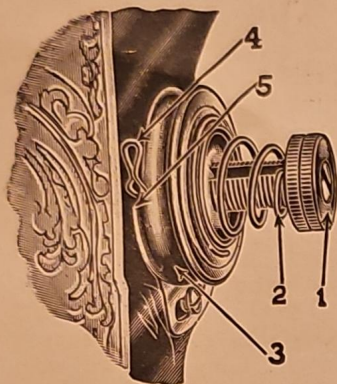

Figure 13 1/2.
This Machine is fitted with an **AUTO-MATIC TENSION RELEASE**. When you regulate the tension, the **presser foot must be down**. The upper tension is regulated by the tension regulator (see 1, Figure 13 1/2); turn the tension regulator **ONLY A QUARTER OF A TURN AT A TIME** over to the right to make the upper thread tighter, or to the left to make it looser.
**Caution:** Always see that the thread controller spring (4) is always **above** the arm (5), as in Figure 13 1/2.